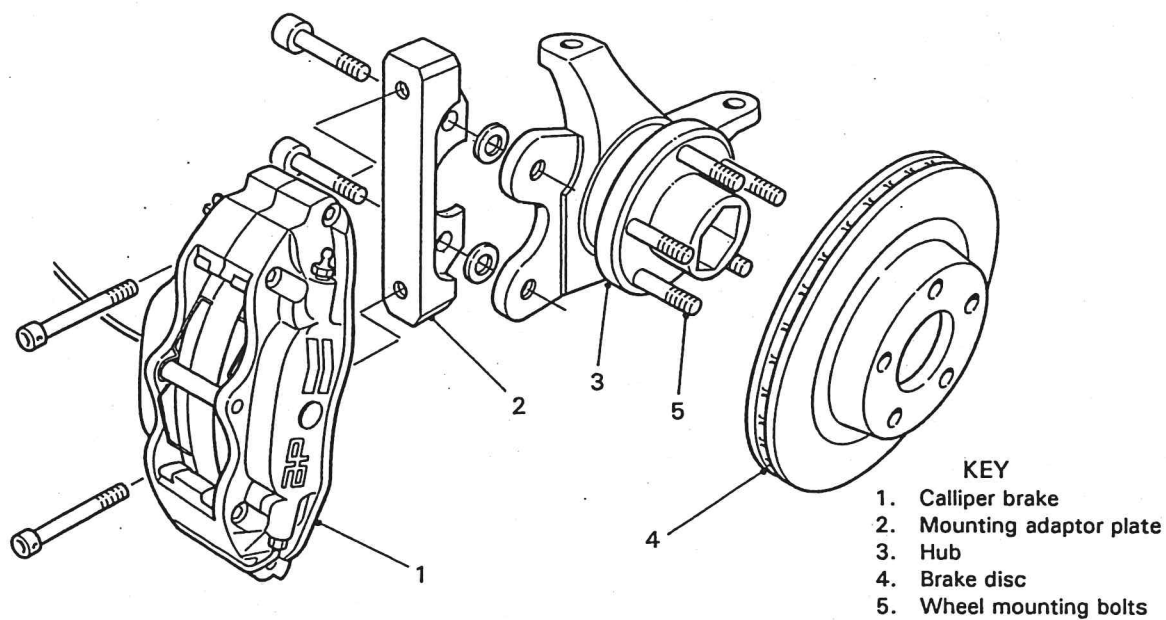

Fig. 3 Front Calliper Brake Assembly, RH Side
1. (Refer to Fig. 3). Bolt the calliper mounting adaptor plate (2) into the hub (3) mountings using two M12 x 1.5mm washers to space it out and secure using two M12 x 40mm caphead bolts applying Loctite to the threads. Do not apply Loctite to any other brake securing bolts.
2. First fit the disc (4) onto the wheel mounting bolts (5).
3. Fit the brake pads into the calliper (1) first applying a thin smear of copper slip on the back of the pad. Take care that no grease is allowed to get onto the braking surface of the pad. Push the pad into position in the calliper between the tension springs.